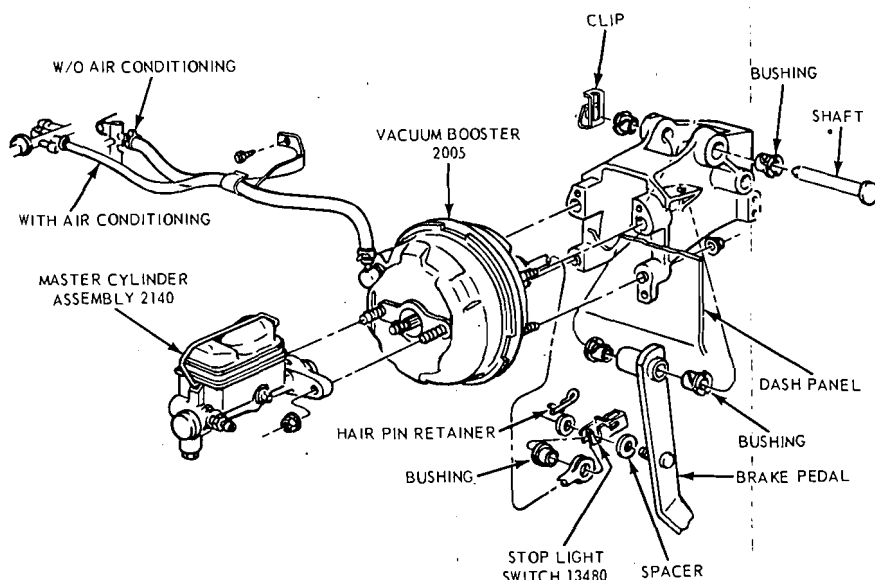

FIG. 29—Master Cylinder Installation—Power Brake—Ford, Mercury and Meteor
2. Position the master cylinder assembly over the booster push rod and onto the two studs on the booster assembly (Figs. 29 thru 33).
1. Remove the brake tubes from the primary and secondary outlet ports of the master cylinder (Figs. 29